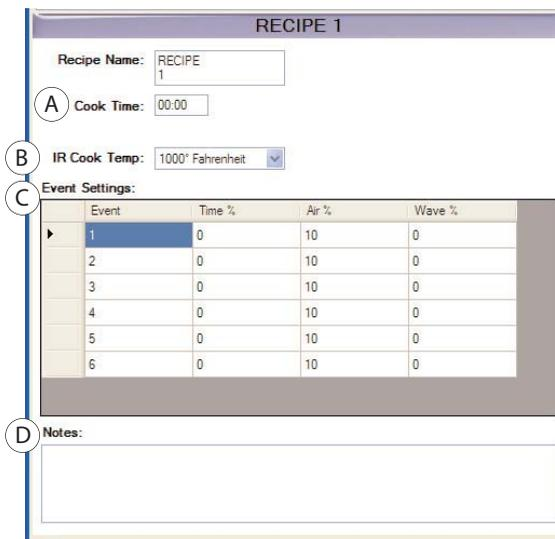

Figure 20: Recipe Edit Pane
NOTE: You can also change a recipe name from the recipe edit pane (Figure 20).
3. Click the recipe you want to edit. The settings will appear in the **Recipe Edit** pane (Figure 20).
4. In the recipe edit pane, enter the cook time (Figure 20, Item A), separating minutes and seconds with a colon.
- 5a. If the recipe is for the Tornado, enter the IR cook temperature (Figure 20, Item B).
6. Enter event settings (Figure 20, Item C).